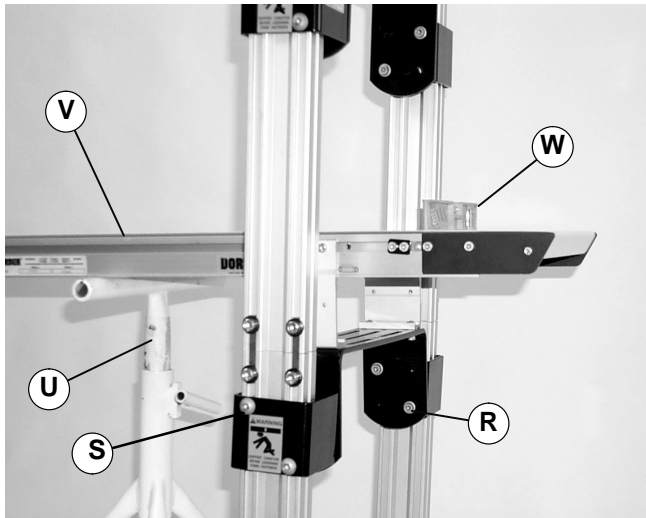

Figure 12
1. Install a support (U of Figure 12) below conveyor (V) that will be adjusted.
2. Loosen two flange socket head screws (R of Figure 12) on each side of conveyor (V).
3. Loosen two button head screws (S) on each side of conveyor (V).
4. Adjust conveyor to desired height. Using a level (W), ensure conveyor is level from side to side.
5. Tighten two flange socket head screws (R of Figure 12) on each side of conveyor (V) to 24 ft-lb (33 N-m).
6. Tighten two button head screws (S) on each side of conveyor (V) to 17 ft-lb (22.5 N-m).
2. Adjust conveyor to desired angle. Using a level (W of Figure 12), ensure conveyor is level from side to side.
3. Tighten angle adjustment screws (R) to 24 ft-lb (33 N-m).